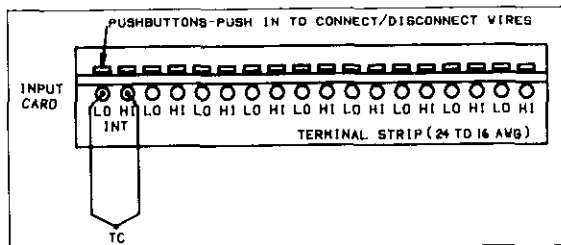

Figure 1. Setup Using Internal Channel
2. Refer to Figure 1 and connect the appropriate TC to the pair of terminals marked "INT". The negative wire of the TC has red insulation.